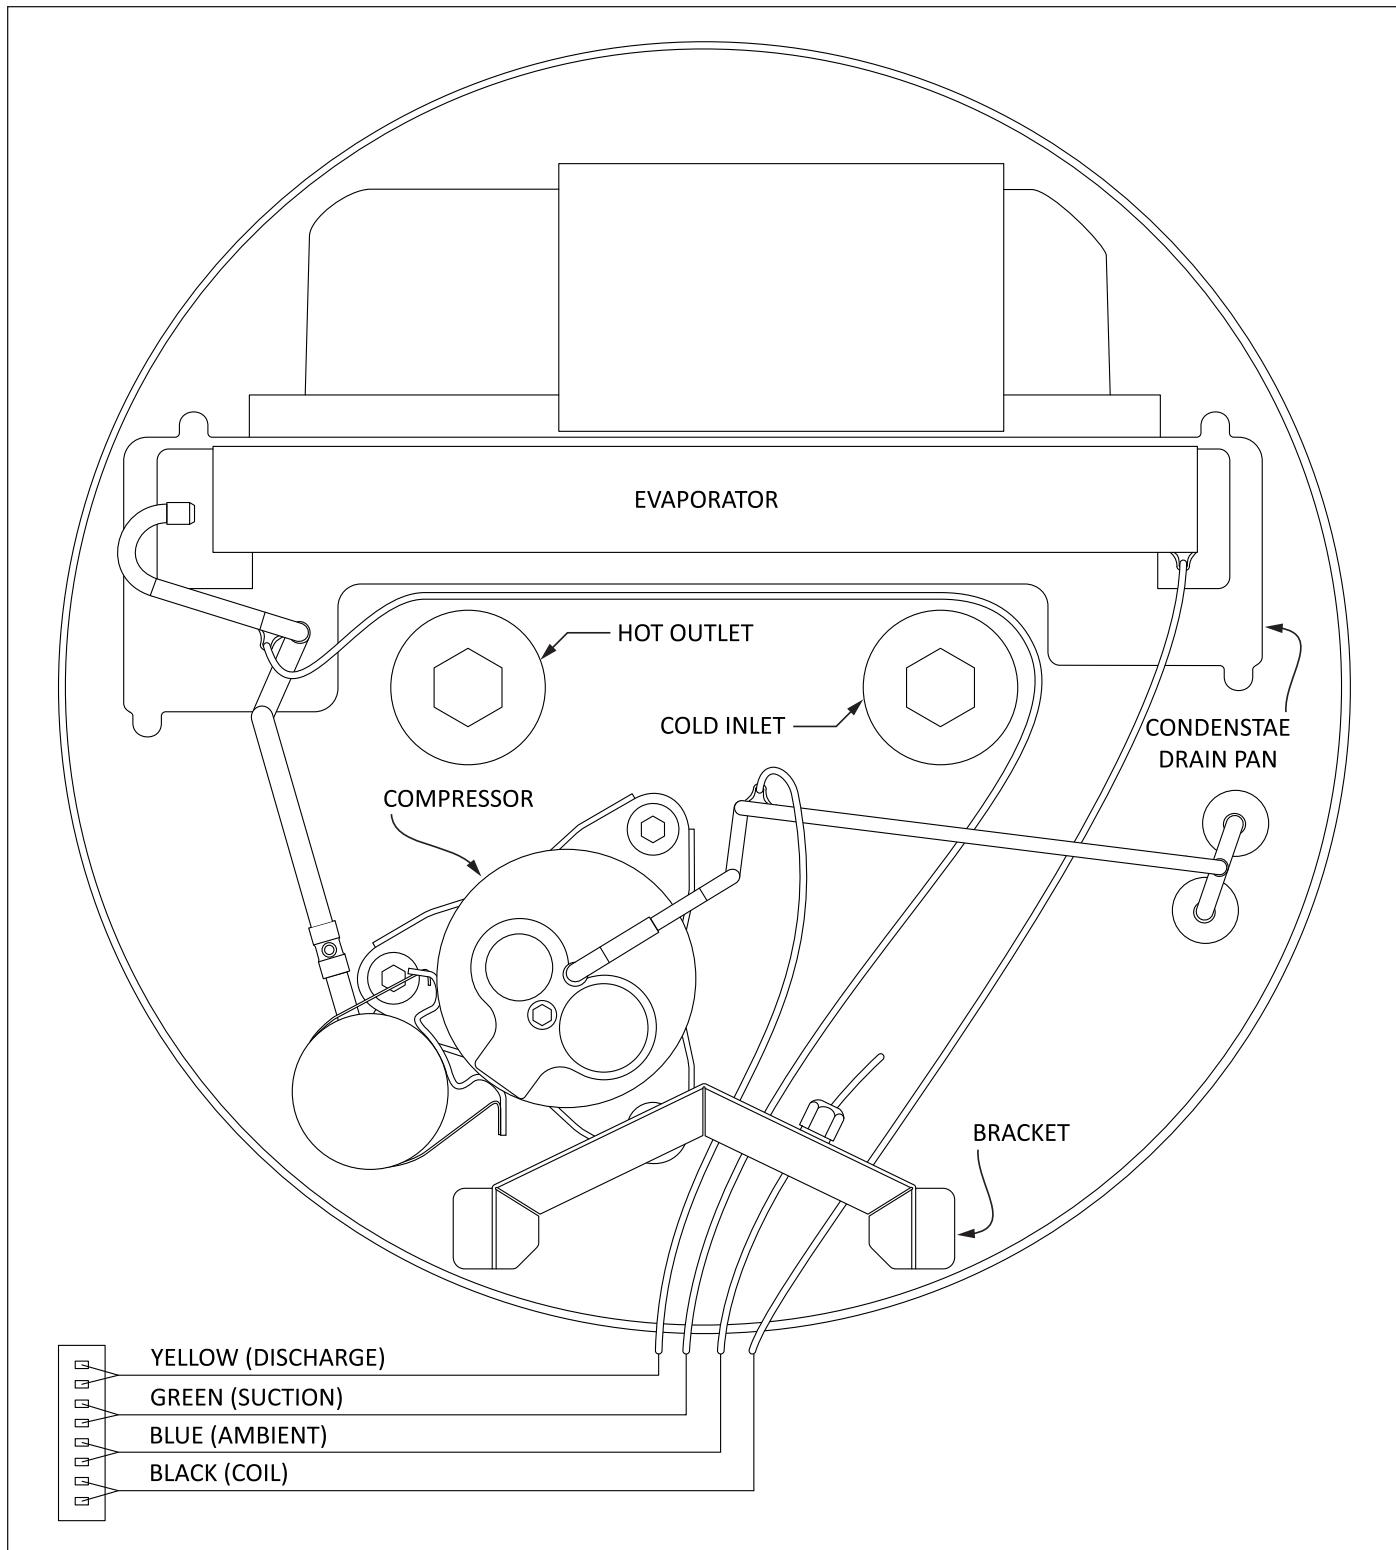

Figure 107 – Sensor Wire Diagram
**NOTICE:** For sensor locations, see Figure 107 on page 55.